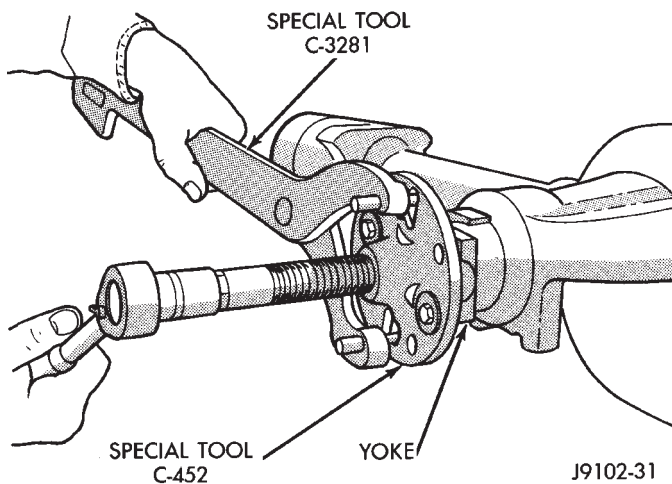

Fig. 32 Pinion Yoke Removal
(1) Remove the pinion yoke nut and washer. Use Remover C-452 and Wrench C-3281 to remove the pinion yoke (Fig. 32).